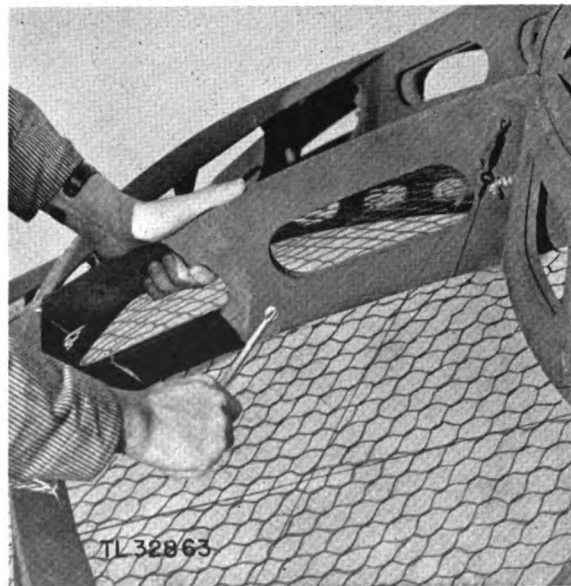

Figure 11. Tightening camlock on antenna assembly.
b. With all of the sections of the parabolic reflector in their proper places, begin the assembly. There are six screwdrivers ($\frac{5}{16}$ inch x 6 inches) which fit the screws exactly. To save time, use six men to assemble the parabolic reflector. Begin the assembly by having one man hold up the central hub, while another holds the outer section adjacent to it, and a third man fastens in the camlock screws (fig. 11). Be sure the camlock pin is in correct alignment with the slot, so that these screws may be tightened easily. Only a quarter turn is required to snap them into place.